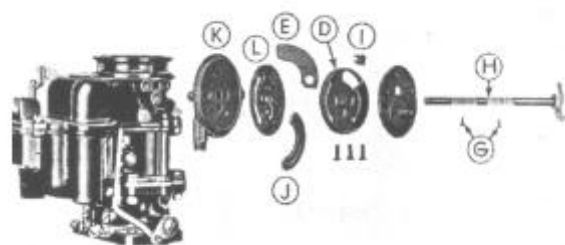

Figure 439
piston plate housing (K), piston plate housing gasket and hot air passage gasket (Figure 439).